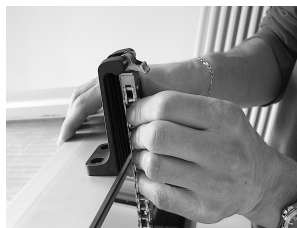

Figure 16
2. Hold the window with one hand and pull the pin out of the opening with the other hand (Fig. 16).